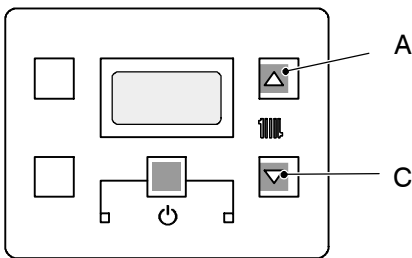

Fig. 6.6
- 2 To move through the parameters press c.h. set keys (A or C Fig. 6.6)
- 5 To change the parameters press c.h. set keys (A or C Fig. 6.6)